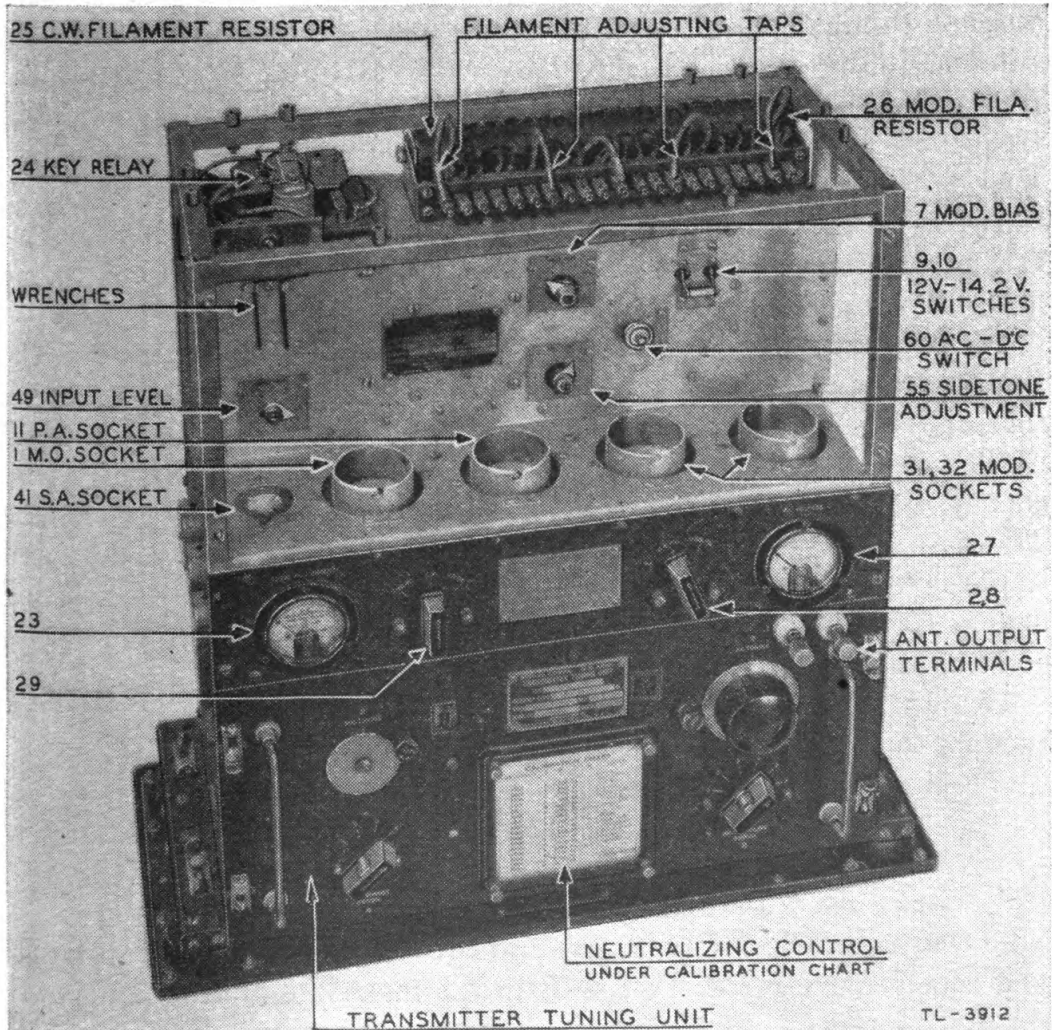
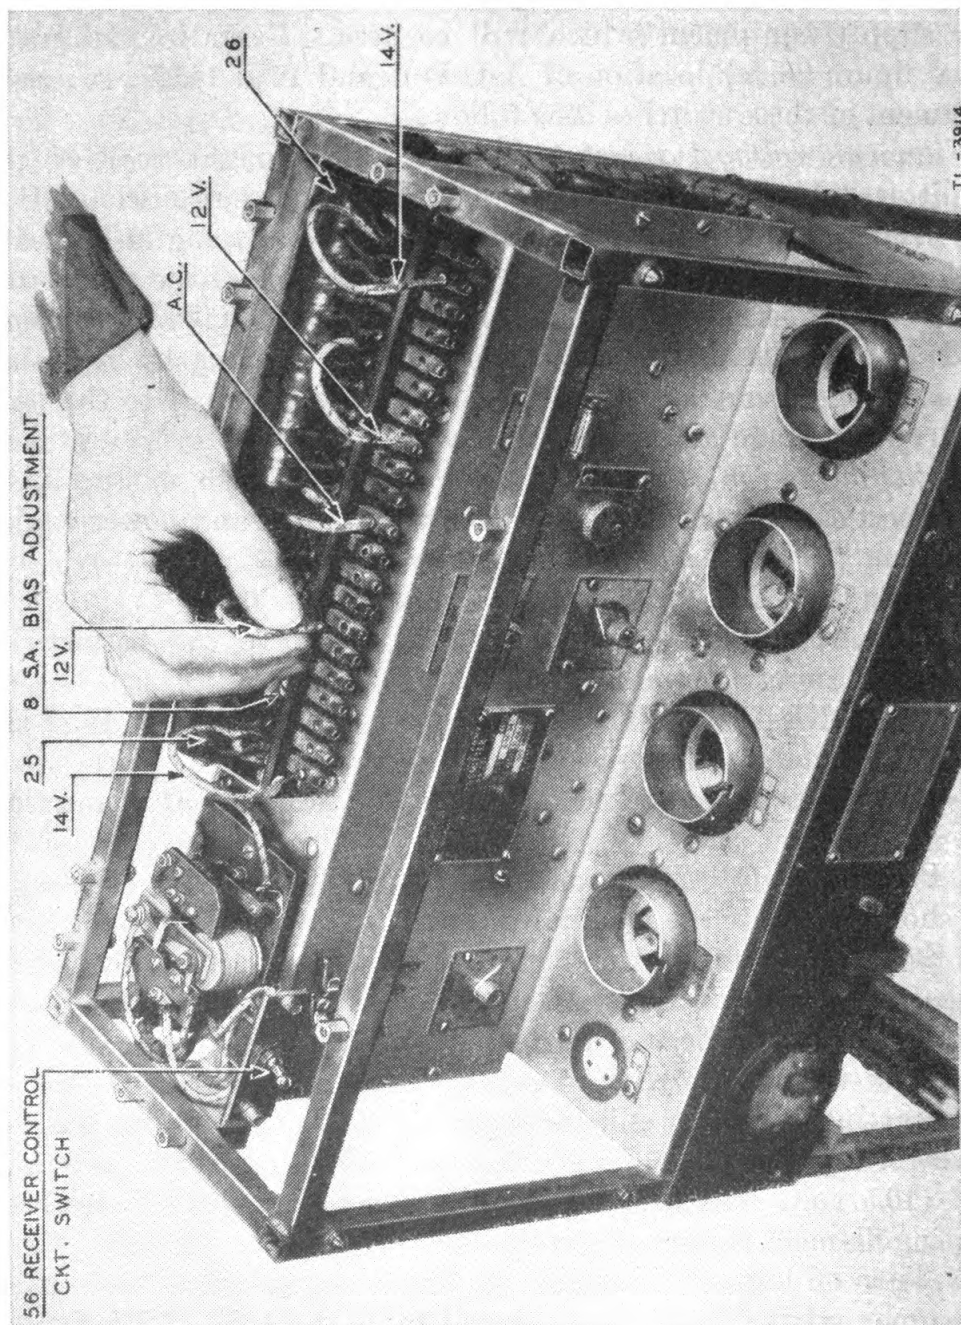

FIGURE 26.—Radio transmitter BC-AA-191 with panels removed showing location of main controls—front view.
FIGURE 29.—Inserting filament adjusting tap in terminal on filament resistor connection board. (Location of S. A. BIAS adjustment is also shown.)
44. Major components.—Radio transmitter BC-AA-191 comprises the transmitter, two small setscrew wrenches, junction box TM-AA-160 and mounting FT-115 (see figs. 26 and 28). Auxiliary transmitter tuning units TU-AA-3 to TU-AA-10, antenna tuning units BC-AA-193 or BC-BB-193, BC-AA-194 and BC-AA-204, antenna switching relay BC-AA-196 or BC-CC-196, and radio control box BC-AA-192 are supplied only as component parts of each radio set in which the transmitter is used.
(2) Located on the back wall of the tube compartment are the INPUT LEVEL control (back of the VT-25 at the left end), the MOD. BIAS control (at right center), the SIDE TONE switch (just beneath the MOD. BIAS control), the 12V. 14.2V. switch (at the right, behind tubes four and five), and the A-C D-C switch (just beneath and to the left of the 12V. 14.2V. switch). At the upper left of the tube compartment is the receiver control circuit toggle switch 56, marked POSITION NO. 1 and POSITION NO. 2. (See fig. 26.) This switch, through cording connections with associated receiving equipment in a radio set, determines the circuit control exercised on the receiver by the transmitter keying relay.
(3) On the top of the transmitter, accessible by removal of the top plate, is the S. A. BIAS adjustment. This is a potentiometer shaft located between the filament resistor and the filament resistor terminal board, at the left end of the board. The shaft is slotted for a screw driver. (See figs. 29 and 34.)
(4) These controls have the same purpose as those on the BC-191-(*) transmitter (par. 12*a*).
53. Adjustments prior to operation.—Determine the type of power supply equipment which will be used. Refer to paragraph 12*a* and figure 26 for location of A-C D-C and 12V. 14.2V. switches. Adjustment of these switches is as follows:
a. Filament voltage adjustment.—At the top right rear of the transmitter tube compartment is the filament resistor connection board. There are five tap wires, each with a small plug at one end. The plugs can be inserted vertically in the terminals of the connection board. Spring action holds them in place when inserted. (See figs. 26 and 29.) Adjustment of filament voltage is made by inserting the taps in the terminals, proceeding from one terminal to the next until proper voltage adjustment is secured.
(1) Connect all power cording between transmitter and power equipment *except the high-voltage cord to socket PL-59*.
(2) Place A-C D-C switch in tube compartment at D-C.
(3) Place 12V. 14.2V. switch on 14.2V. (Have the battery on charge by running the vehicle engine.)
(4) Set TONE C. W. VOICE switch on VOICE and C. W. FIL. MOD. FIL. switch to MOD. FIL.
(5) Insert tap plug marked AC in center terminal of connection board.
(6) Place OFF ON switch on radio control box at ON. The voltmeter should indicate the modulator filament voltage.
(7) Starting at the right end and working to the left, adjust right end tap (marked 14) of the modulator filament resistor terminal board until the voltmeter indicates approximately 10.5 volts.
(8) Place voltmeter switch to C. W. FIL.
(9) Starting at the left end and working to the right, adjust the left end resistor tap, stamped 14, until the meter reads approximately 10.5 volts. (10.5 volts will drop to 10 volts when plate load is applied. Operating filament voltage is 10 volts.)
ance voltmeter such as the one supplied with test set I-56 or I-56-A and connect the positive voltmeter lead to the chassis frame. Touch negative lead test prod to the proper terminal of capacitor 53 (only one of the terminals will give a voltage reading). Insert an insulated screw driver in the slotted S. A. BIAS control shaft (see fig. 29) and adjust for a voltmeter reading of 35 to 40 volts. If two persons are present, have one depress the key and make the adjustment while the other handles the voltmeter. *Be careful!*